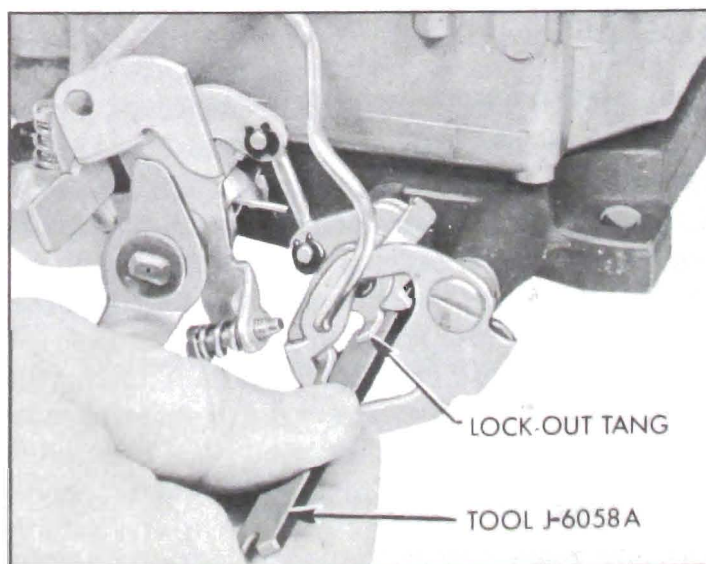

Figure 3-87—Adjusting Secondary Lock-Out
6. If clearance between tang and lock-out step is not correct, bend tang as required to obtain this clearance using Tool J-6058A. See figure 3-87.